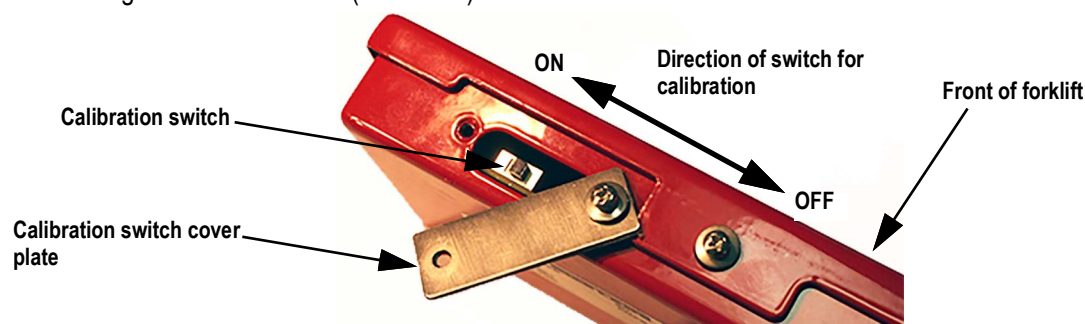

Figure 5-1. J-Box Calibration Switch Location
13. Place the calibration switch into the closed position (Figure 5-1), toward the left hand side of j-box when standing in front of the scale (toward load cell #1).
1. Place calibration switch into the closed position (Figure 5-1), toward the left hand side of j-box when standing in front of the scale (toward load cell #1).
15. Place calibration switch into the closed position (Figure 5-1), toward the left hand side of j-box when standing in front of the scale (toward load cell #1).